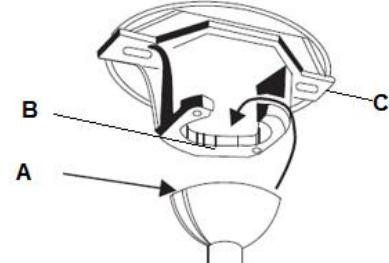

Fig. 7
Lift the fan assembly onto the mounting bracket. Ensure the registration slot (A) of the hanger ball is positioned on the stopper (B) of the mounting bracket (C) to prevent the fan from rotating when in operation. **Fig. 7**